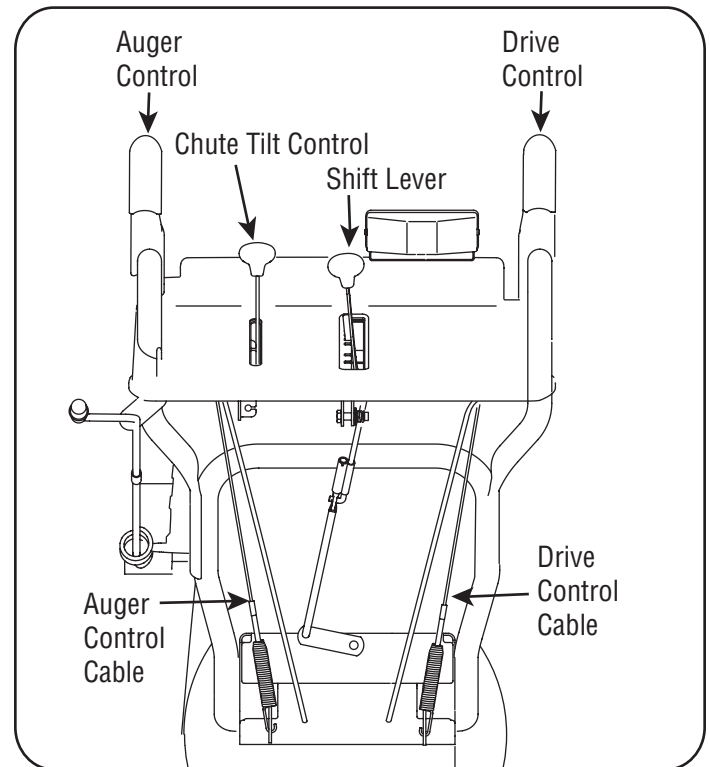

Figure 9
- Move the shift lever into sixth (6) position. See Figure 9.
- With the drive control released (see Figure 9), push the snow thrower forward, then pull it back. The machine should move freely.
- When the auger control is released and in the disengaged “up” position (see Figure 9), the cable should have very little slack, but should NOT be tight.